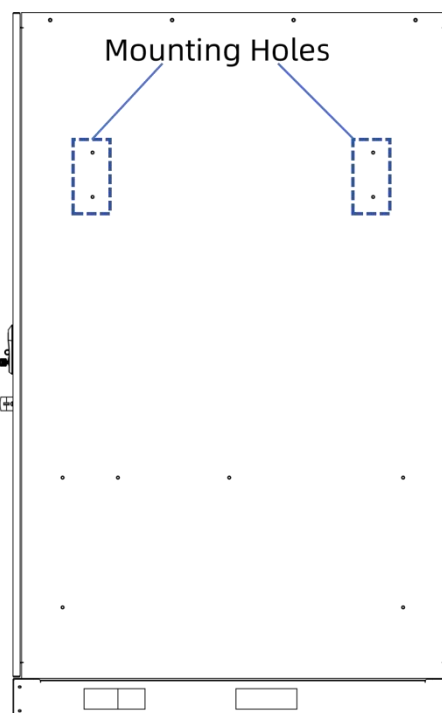

Figure 6-2 Mounting holes of the inverter
Four mounting holes for the inverter are provided on the right side panel of the cabinet, as shown in Figure 6-2.
Step 1: Align the inverter bracket with the holes on the cabinet as shown in Figure 6-2 and Secure the inverter bracket to the inverter bracket with M10 bolts.